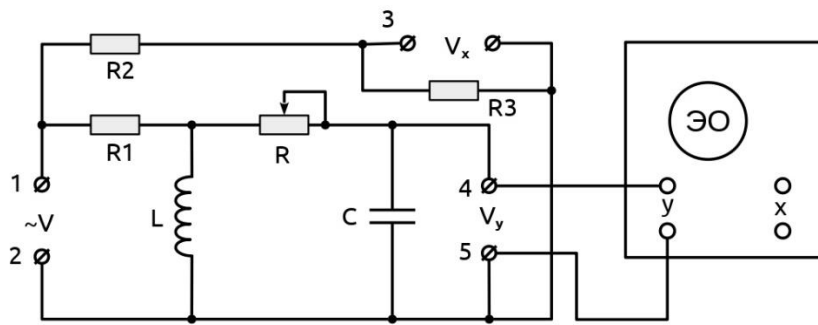
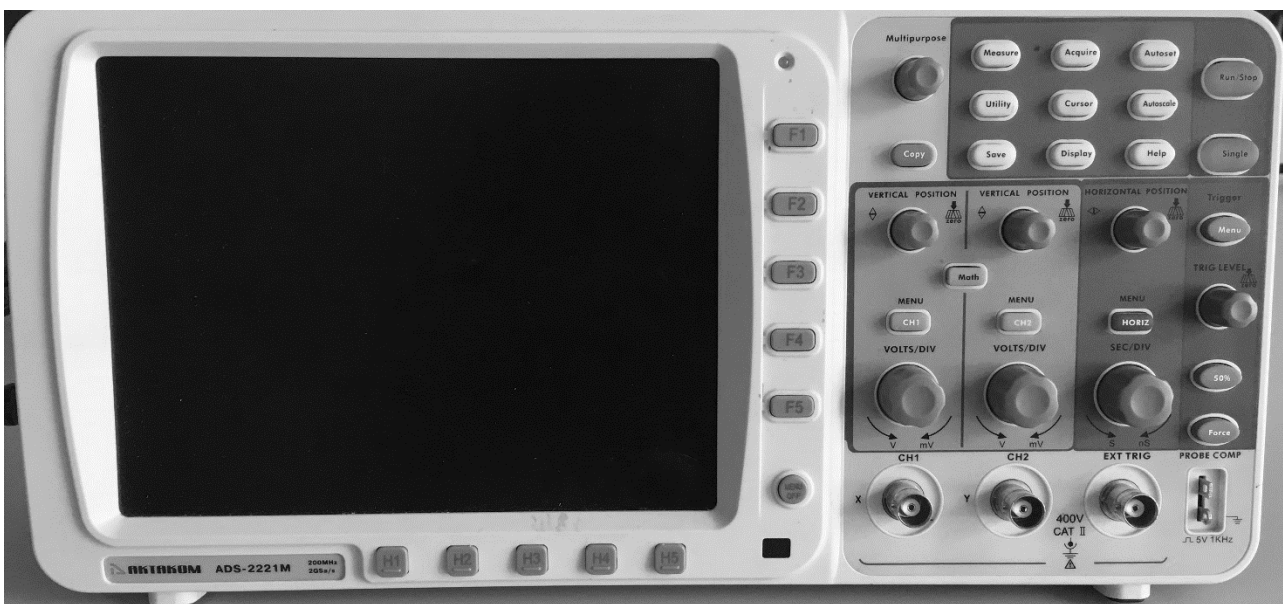

Figure 452.3. Circuit of the experimental setup
Figure 452.4. Oscilloscope
1. Connect the rectangular pulses generator to the contacts **1**, **2** (Fig. 452.3). Set the generator frequency to 300 Hz. Close the input pins of the cable connected to the “**CH2**” oscilloscope port and align the signal line with the middle horizontal line of the display using the “**vertical position** \blacklozenge ” knob (Fig. 452.4). Then reconnect the cable from “**CH2**” oscilloscope port to the pins **4** and **5**.